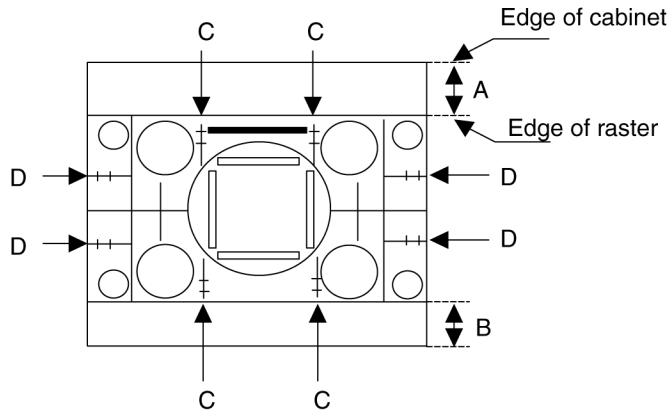

Fig 25
Adjust V-Amp(1125i_50) so that C=90 \pm 2.5(%) in the Fig.25
1. Adjust H-Amp(1125i_50) so that D=92.5 \pm 2.5(%) in the Fig.25